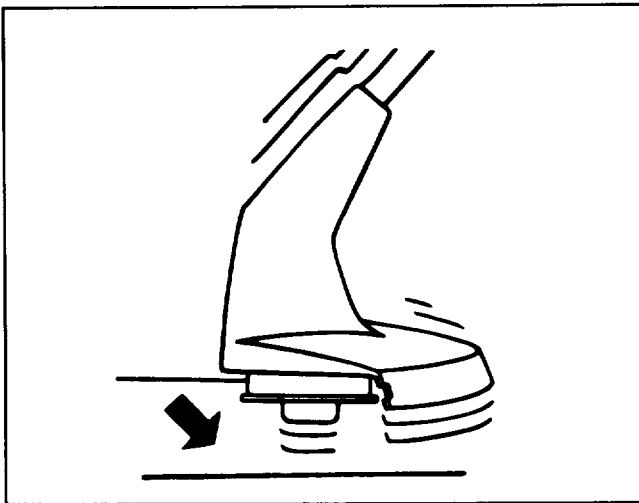

Figure 17
1. To lengthen line, firmly tap spool on the ground while the motor continues to run. The line will be fed from the spool and cut off to the proper length by the cutting knife attached to the shield (Fig. 17).